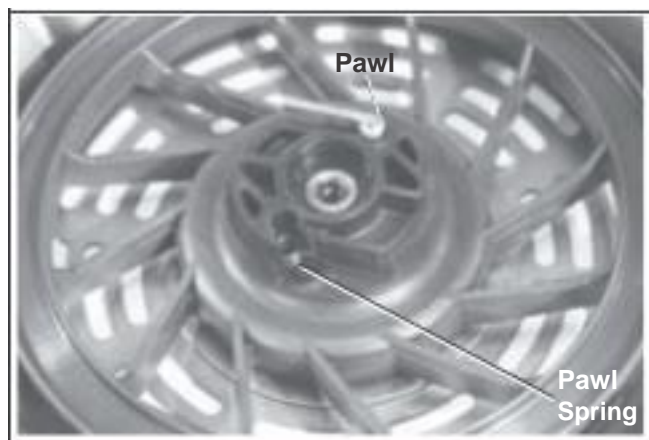

Figure 7-10. Installing Pawls and Pawl Springs.
4. Install the pawl springs and pawls into the starter pulley. See Figure 7-10.